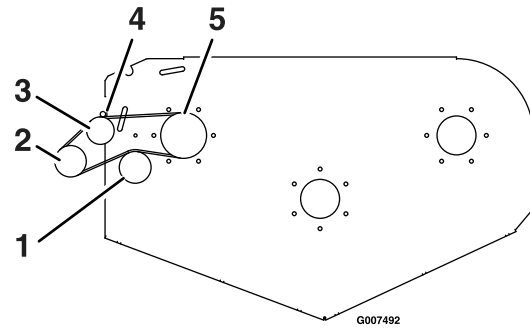

Figure 9
2. Remove the belt guide on the blower (see Figure 9).
4. Install the new belt onto the blower assembly as shown in Figure 9.